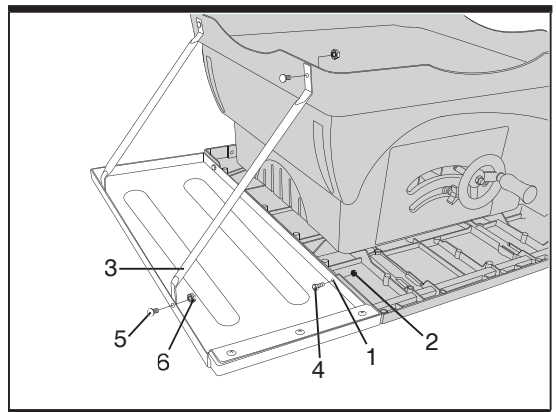

Fig 1
- 3) Place the right table extension next to the saw table, aligning the mounting holes (1).
- 4) Insert the bolts (4) through the mounting holes and attach the nuts (2).
- 6) Adjust the nut (2) until the extension is flush with the saw table. Tighten.
- 7) Place the extension supports (3) to the right table extension and secure them on the stand with bolts (5) and nuts (6).
- 8) Repeat these procedures for the left extension table (See fig. 1).